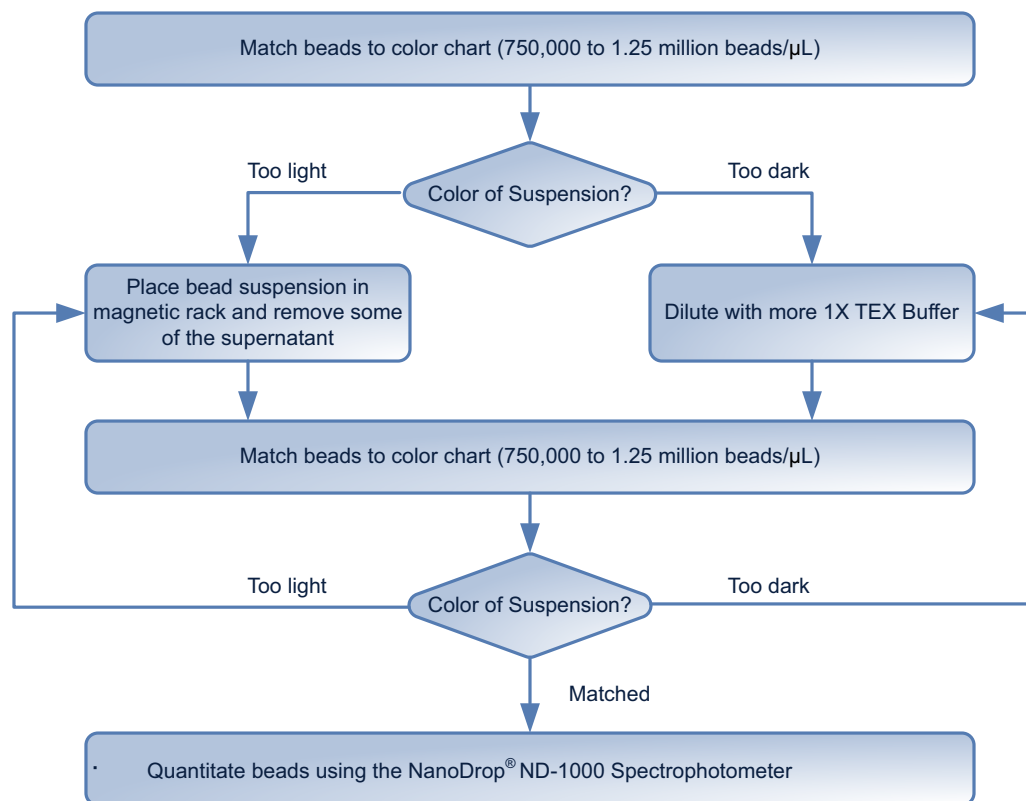

Figure 40 The SOLiD™ Bead Concentration Chart workflow.
4. Adjust the volume of beads so that the color of the bead solution matches a color in the optimal range (750,000 beads/ μ L to 1.25 million beads/ μ L; see Figure 40 for the workflow).